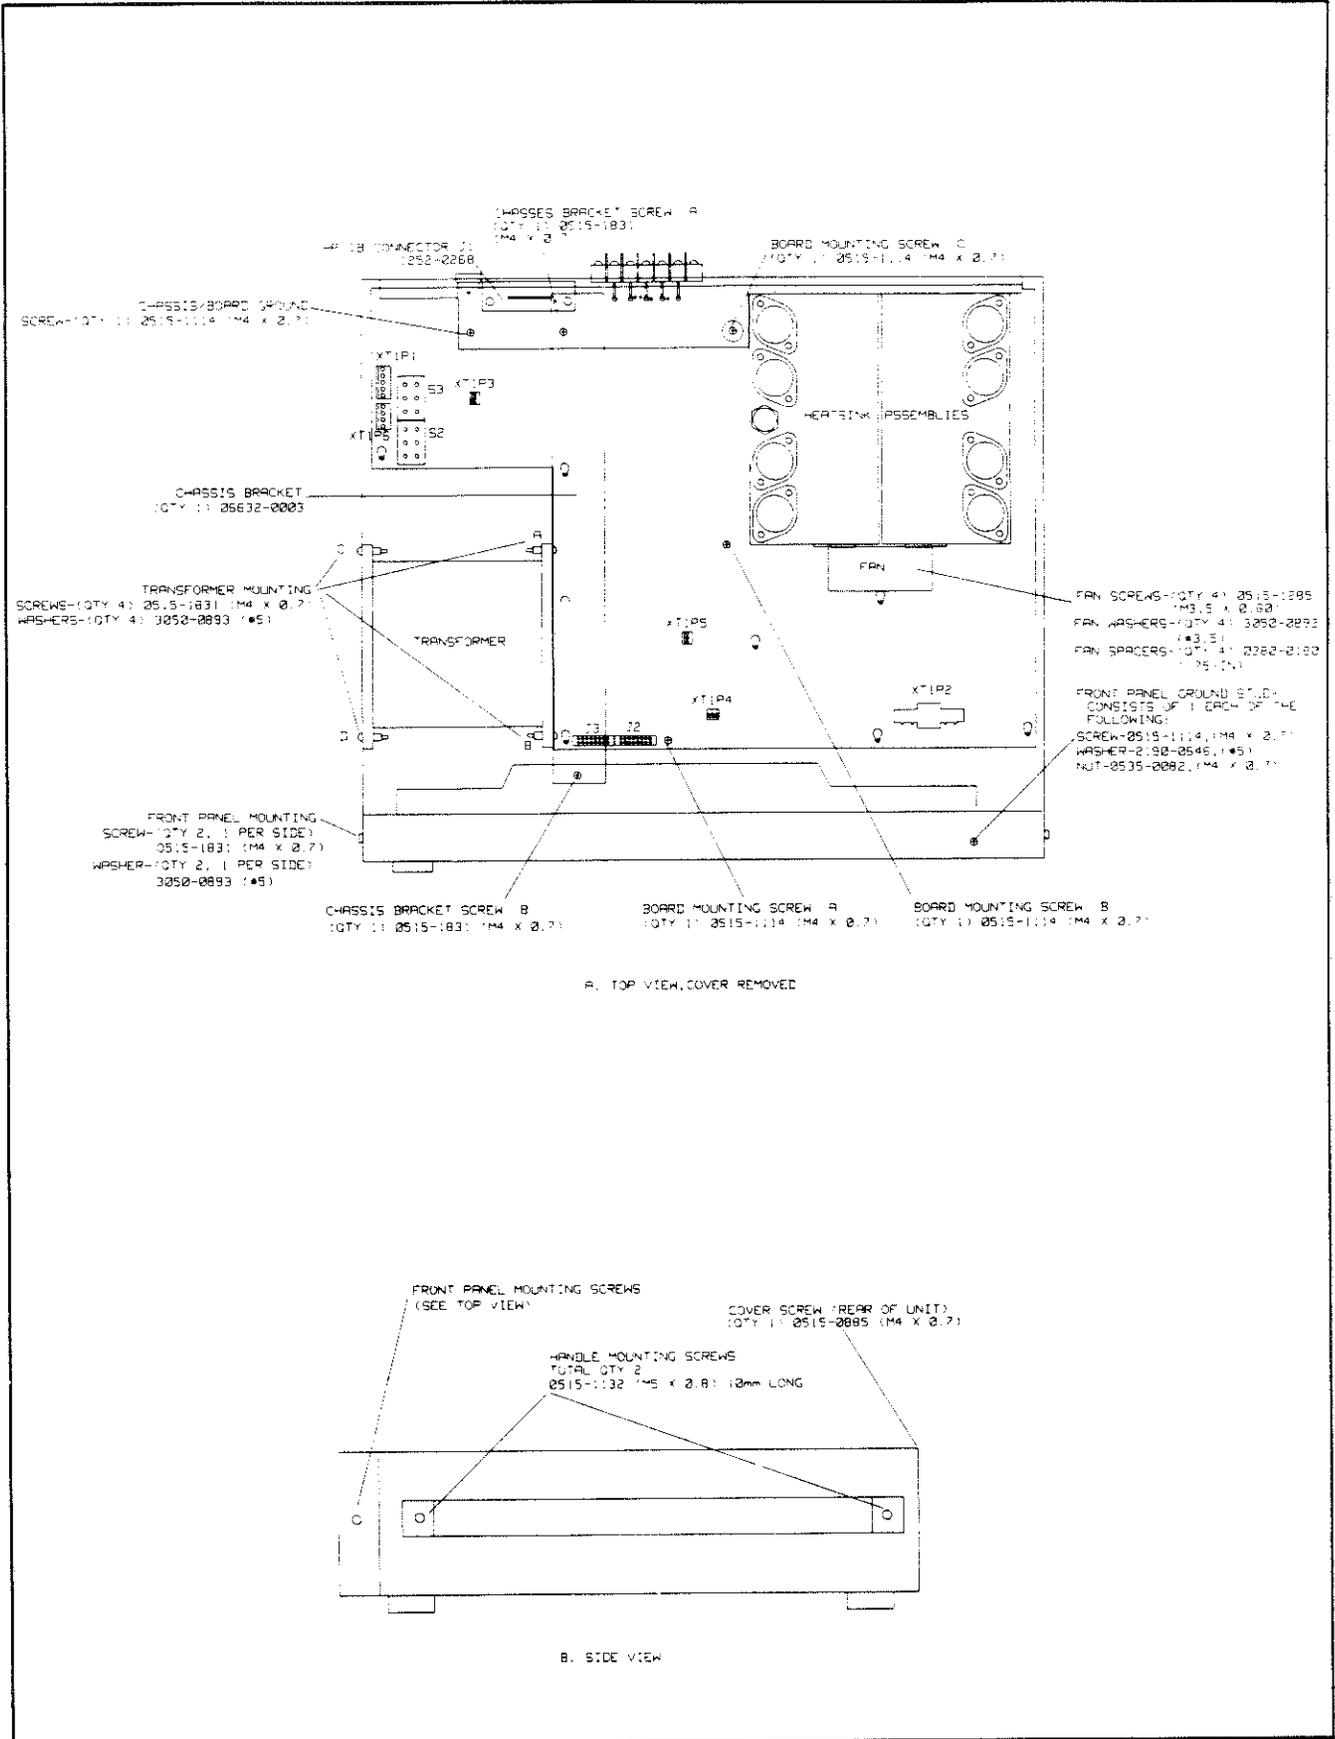

Figure 4-1. Removal and Replacement
The major assemblies within the power supply are illustrated in Figure 4-1. The following paragraphs provide instructions for removing certain assemblies and components for which the procedure may not be obvious upon inspection. Replacement procedures are essentially the same as the corresponding removal procedure except that they are performed in the reverse order.
The top cover must be removed to gain access to the inside of the supply. To remove the cover, refer to Figure 4-1 and proceed as follows:
After removing the cover, place the power supply on a workbench with the front panel facing you and refer to Figure 4-1.
- b. Place the open unit on a workbench with the front panel facing you and refer to Figure 4-1.